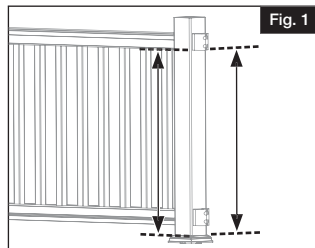

Fig. 1
- a. For 36" high rails, place bracket dovetail install template against the post sleeve directly on top of the base trim and rubber band it in place (Fig. 1).
- For the post where the angled bracket will be installed, measure from the top of the base trim to the bottom of the already installed top rail (Fig. 1).
Temporarily secure a deck board (5/4") to your stair treads to determine the spacing between the nose of the stairs and your bottom rail (Fig. 1).